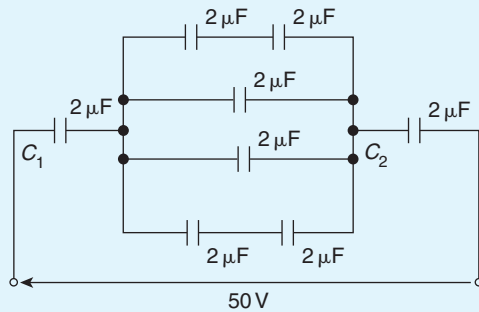

Figure 6.13
12. For the circuit shown in Fig. 6.13, determine (a) the total circuit capacitance, (b) the total energy in the circuit and (c) the charges in the capacitors shown as C_1 and C_2 .